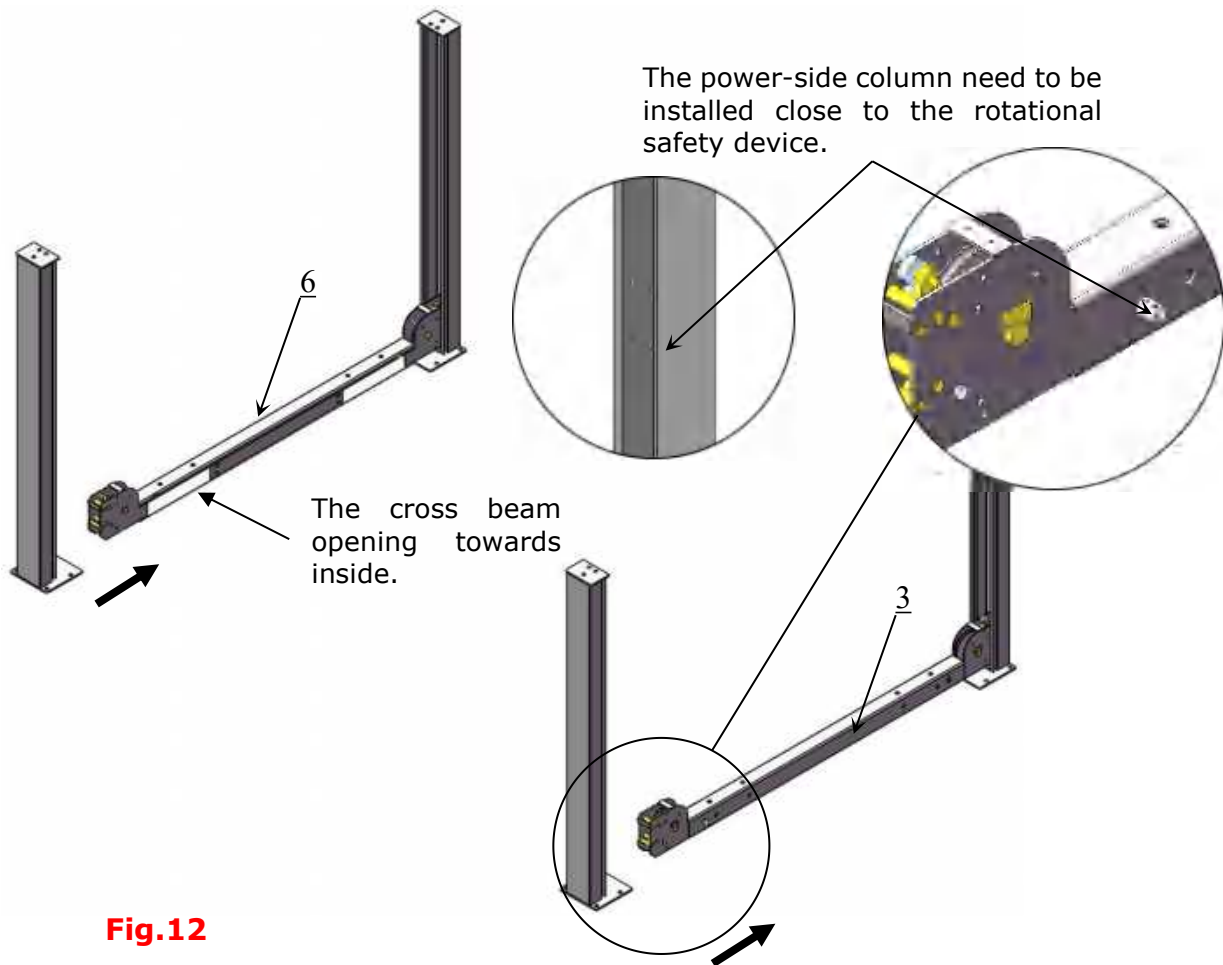

Fig.12
C. Install cross beams. The cross beam opening towards inside, the power-side column need to be installed close to the rotational safety device. (See Fig.12, Fig.13).